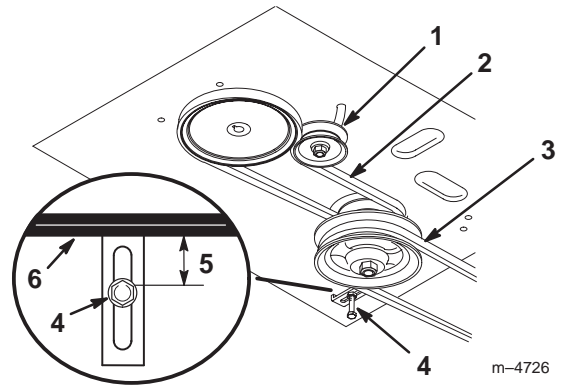

Figure 47
- Remove the mower belt (Fig. 47).
- Loosen the pivot bolt enough to slide the idler pulley in the slot and remove the traction belt from the engine and the drive pulleys (Fig. 47).
- Install the new traction belt around the engine and the drive pulleys (Fig. 47).
- Slide the idler pulley in the engine frame to tension the traction belt (Fig. 47).
- Install the mower belt (Fig. 47).
- Check the belt guide under the engine frame for the proper adjustment (Fig. 47).
- Remove the idler pulley and the worn belt (Fig. 47).